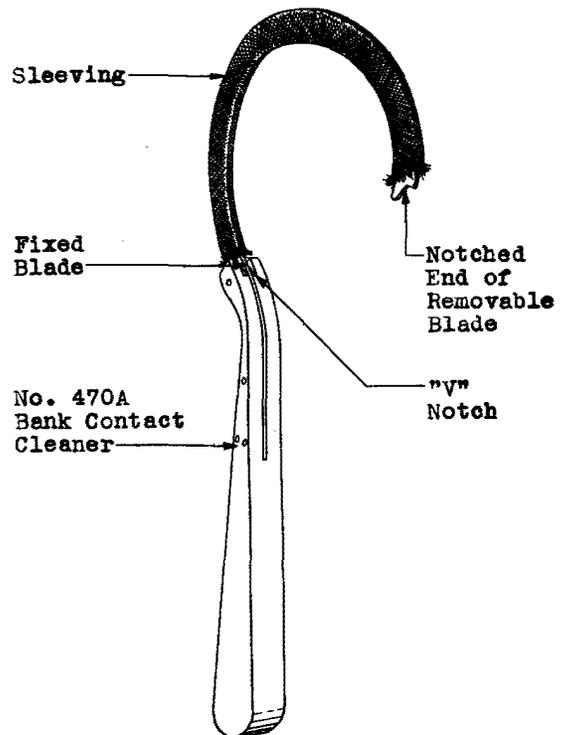

Fig. 1 - Removing Sleeving From No. 470A Bank Contact Cleaner
3.01 To resleeve the No. 470A bank contact cleaner, withdraw the removable blade from the notch in the handle by pulling it up and out of the notch and swing the free end out away from the handle as shown in Fig. 1. Hold the handle of the cleaner with one hand and with the other hand grasp the sleeving at the end of the fixed blade near the handle. Lift the sleeving away from the inner rim of the blade to disengage it from the serrations and pull the sleeving off the fixed blade. Repeat this procedure on the removable blade while firmly holding the notched end of the blade.